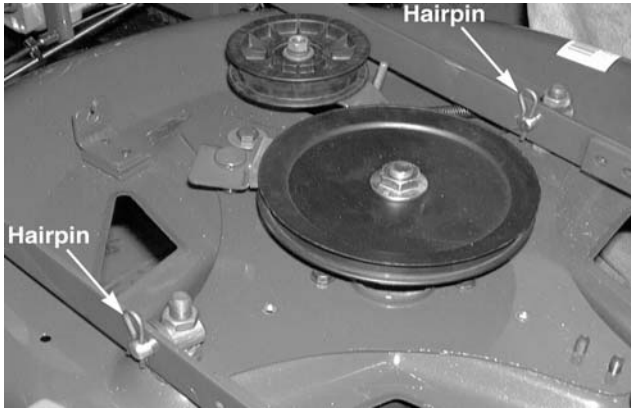

Figure 8-38.
6. Remove both hairpin clips that secure the center deck ferrules to the lift link assembly. See Figure 8-38.